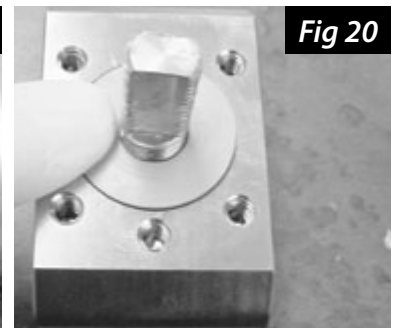

Fig 20
4. While holding the bottom of the stem, place the PEEK stem bearing over the top of the stem. Slide the PEEK stem bearing down until it rests in the groove on top of the body (Fig 20).